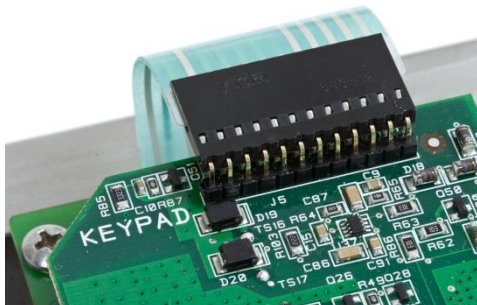

Figure A-29: Keyboard Connection on IND560x-PAB
7. Connect the keypad cable to new connection point on IND560x-PAB. This new connection point is indicated with "KEYPAD" (Figure A-29).